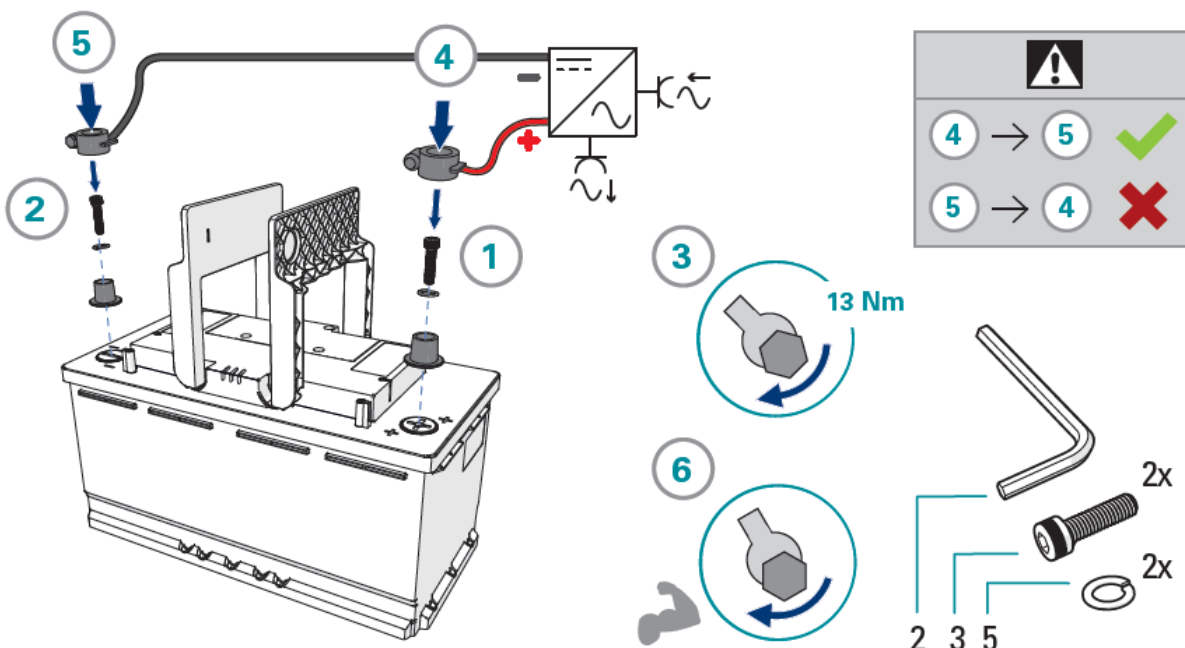

Figure 6: Connect the X1 (–) and X2 (+) terminal of the battery (automotive terminals)
1. Connect the positive wire of the load or charger to the positive (+) terminal of the battery, see Figure 6.
2. Connect the negative wire of the load or charger to the negative (–) terminal of the battery, see Figure 6.